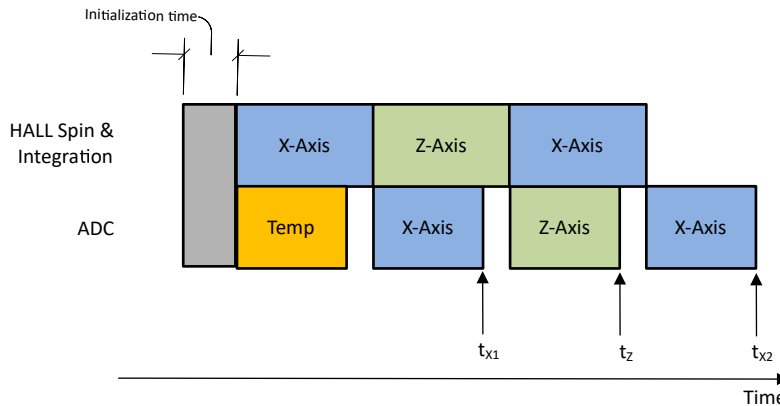

图 7-3. XZX Magnetic Field Conversion
In absolute angle measurement, application sensor data from multiple axes are required to calculate an accurate angle. The magnetic field data collected at different times through the same signal chain introduces error in angle calculation. The TMAG5170D-Q1 offers pseudo-simultaneous sampling data collection modes to eliminate this error. 图 7-3 shows an example where MAG_CH_EN is set at 1101b to collect XZX data. 方程式 7 shows that the time stamps for the X and Z sensor data are the same.
- t_{x1} , t_z , t_{x2} are time stamps for X, Z, X sensor data completion as defined in 图 7-3.